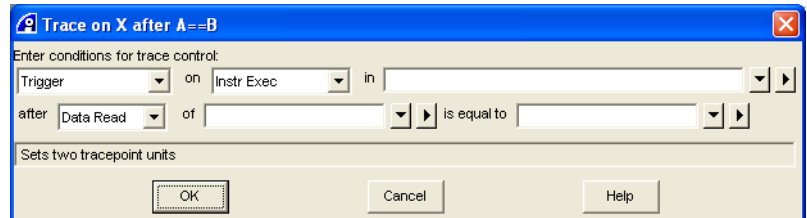

Figure 7-10 Trace on X after A==B dialog box
1. Select **Debug** → **Tracepoints** → **Trace on X after A==B...** from the Code window main menu to display the Trace on X after A==B dialog box. Figure 7-10 shows an example: